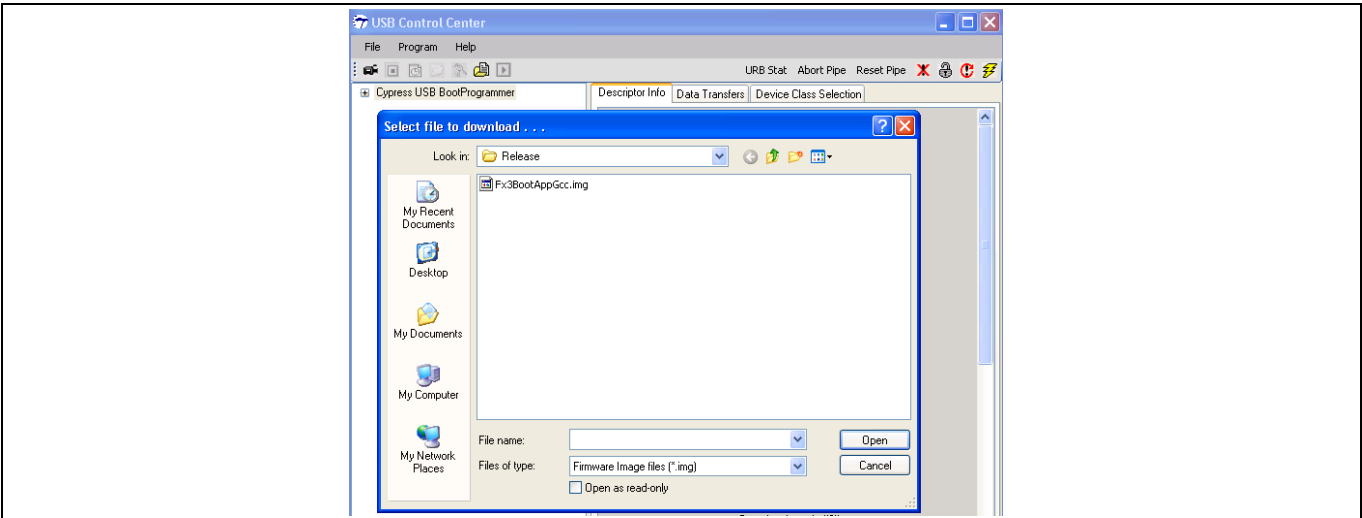

Figure 25 Select firmware image to download
5. After the FX3 DVK board enumerates as “Cypress USB BootProgrammer,” the Control Center application prompts you to select the firmware binary to download. Browse to the .img file that is to be programmed into the I²C EEPROM, as shown in Figure 25.